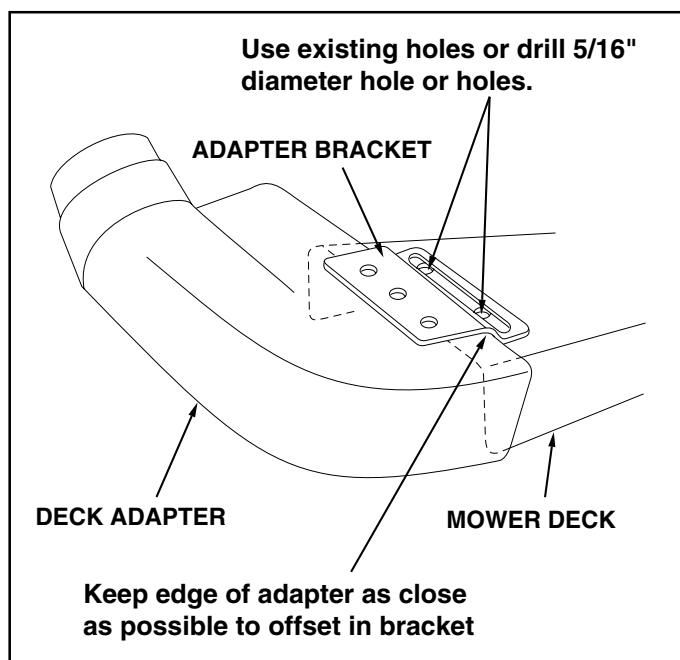

FIGURE 26
- Holding the adapter bracket and the deck adapter together, position the deck adapter on the mower deck. Keeping the edge of deck adapter as close as possible to the offset in the adapter bracket, see if the slot in the adapter bracket can be aligned with one or two of the deflector holes in your mower deck's discharge opening. If the bracket can not be located correctly using existing holes, it will be necessary to drill one or two 5/16" diameter holes in the deck. See figure 26.